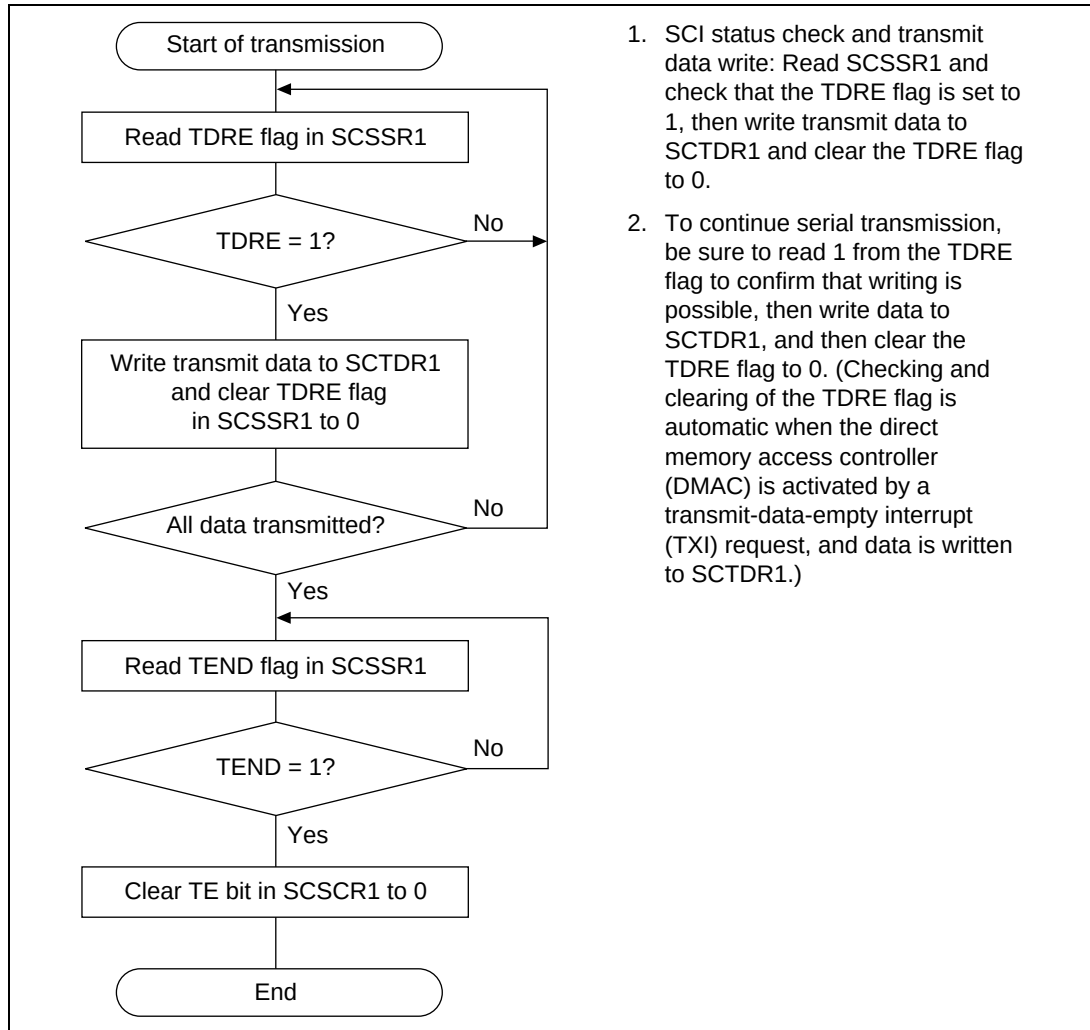

**Figure 15.19 Sample Serial Transmission Flowchart**
**Serial Data Transmission (Synchronous Mode):** Figure 15.19 shows a sample flowchart for serial transmission.